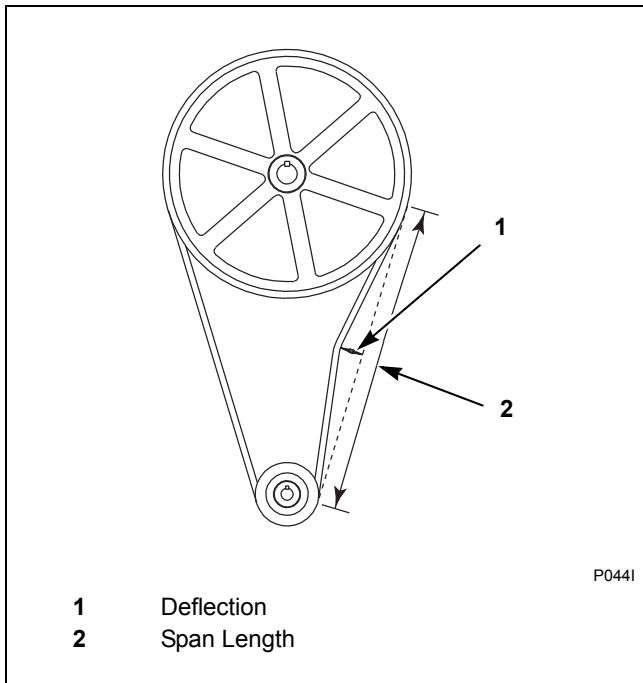

Figure 20
- Deflection.** Refer to *Figure 20*. Loosen motor mounting bolts and slide motor along motor plate to change belt span length. Belt tension measurements should be taken as close to the center of the belt span as possible. For every inch of span length, the belt should deflect 1/64 inch (0.40 mm). Thus, a belt with span length of 50 inches should deflect 50/64 inch (19.84 mm). An initial (run-in) force of 5.25 pounds should be used to set the belt tension. An operating (normal) force of 3.5 pounds should be used after the washer-extractor has been operated for a few hours.